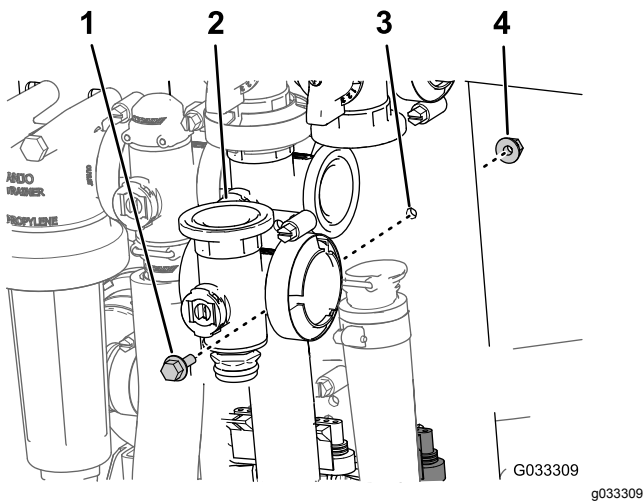

Figure 67
- Remove the flanged-head bolt and flanged locknut that secures the master-boom valve to the valve mount and remove the valve manifold from the machine (Figure 67).